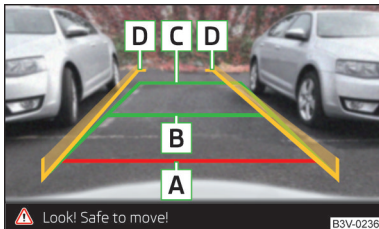

Fig. 187
**Display** » Fig. 187
The lane lines **D** » Fig. 187 change depending on the steering angle and indicate the roadway on which the vehicle would take with the current steering wheel position. The lane lines terminate approximately 300 cm behind the vehicle.
Orientation lines are displayed » Fig. 187 on page 153 in the display.